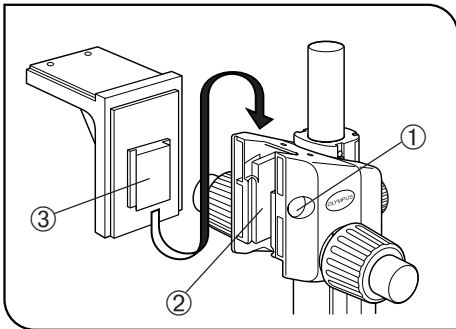

Fig. 7
3 Mounting the Side-by-Side Attachment (SZX-SDO) (Figs. 7 to 9)
1. Remove the dovetail mount clamping screw cap ① on the focusing assembly by inserting a thin object into the notch. (Fig. 7)
3. Align the dovetail mount ② on the focusing assembly with the dovetail mount ③ on the SZX-SDO side-by-side viewing attachment, and insert them gently. (Fig. 7)
5. Place the cap ① in the original position. (Fig. 7)